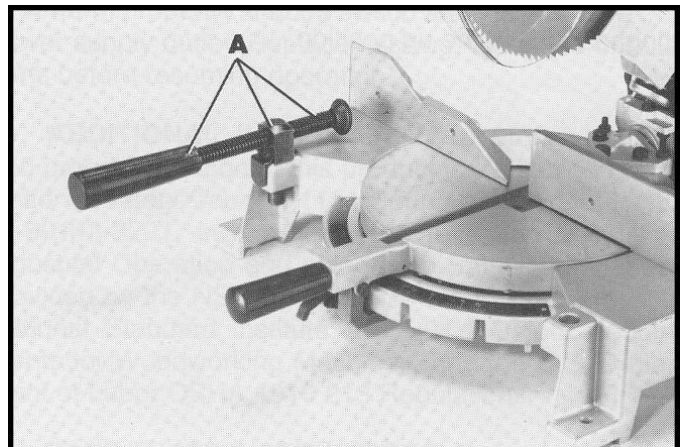

Fig. 8
1. The work clamp (A) Fig. 8, can be used on either the right or left side of the saw base. Insert post of work clamp (A) into the hole located on either the right or left side of the saw base.